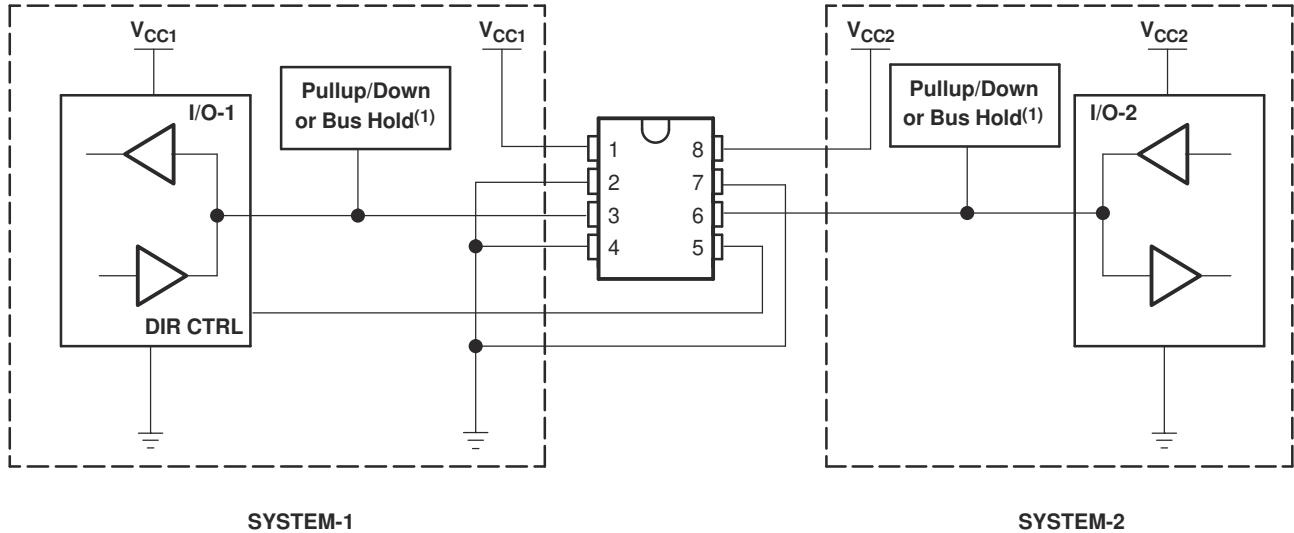

図 8-2. Bidirectional Logic Level-Shifting Application
図 8-2 shows the SN74LVC2T45 being used in a bidirectional logic level-shifting application. Because the SN74LVC2T45 does not have an output-enable (OE) pin, the system designer should take precautions to avoid bus contention between SYSTEM-1 and SYSTEM-2 when changing directions.